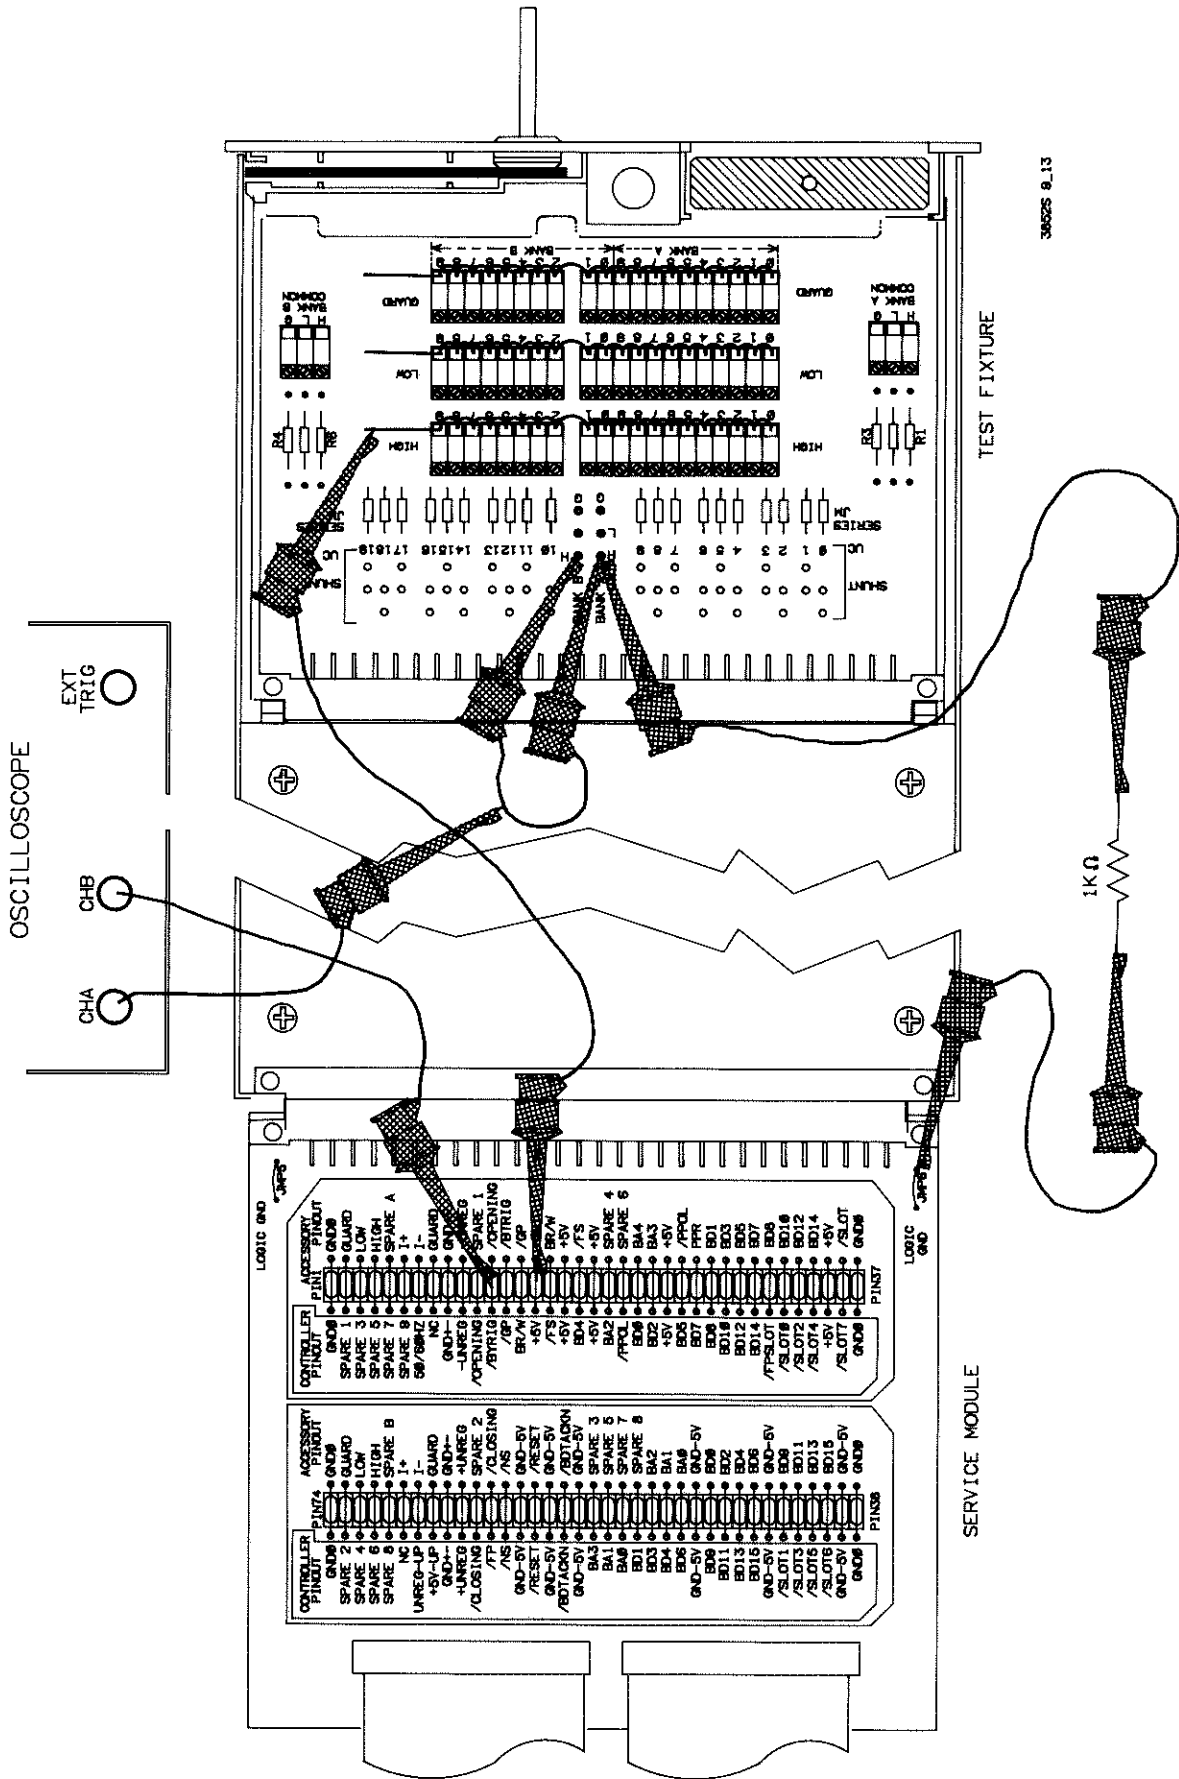

Figure 9-13 HP 44709A/44710A Opening Time Set-Up
1. Remove power from the HP 3852A and unplug the multiplexer to be tested. Install the Service Module in a convenient slot in the HP 3852A. Note the slot number where the Service Module is installed. Install the multiplexer on the service module. Install the test fixture on the multiplexer. The Set-Up Procedure is depicted in Figure 9-13.